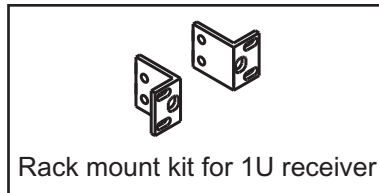

Fig. 5
2. Rack mount kit (optional), Fig. 5.